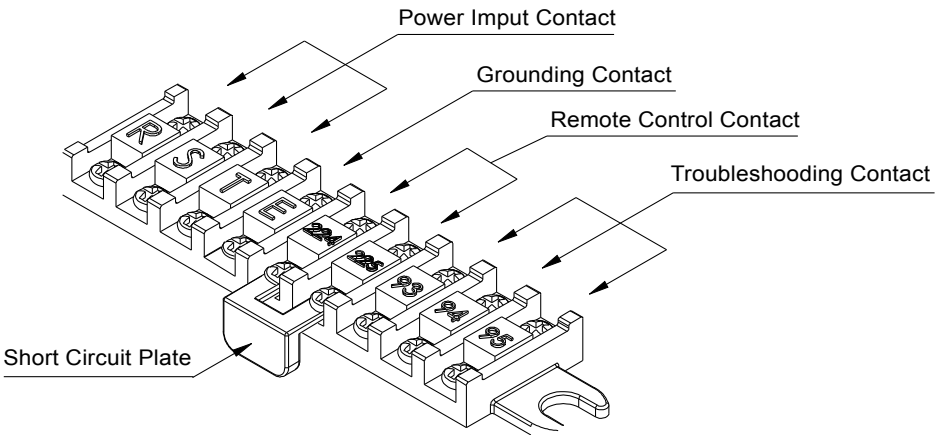

figure 8
(1) Carefully read the contents of the nameplate on the cooler, especially the voltage and model number before connecting the power.
(2) The color of grounding wire has to be yellow/green. And the grounding screws should have enough thread to fully contact with the metal guard.
(3) The input power contact, trouble shooting contact, remote control contact on the terminal block, please refer to figure 8.